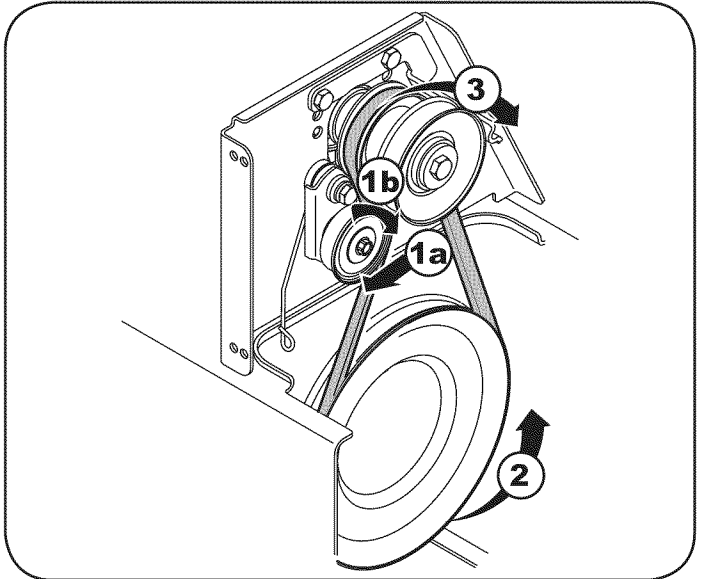

Figure 36
- Pull the idler pulley away from the backside of the drive belt to relieve the tension. See Figure 36.